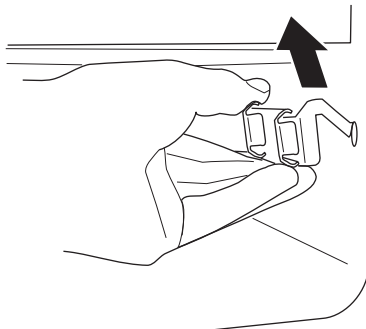

Fig. 5.8
5. Once you have finished, hook the side rails back onto the sides of the chamber. Pull the telescopic rails out and fit the broiler tray onto them, making sure to locate the cut-outs onto the telescopic runner tabs (**Fig. 5.8**).